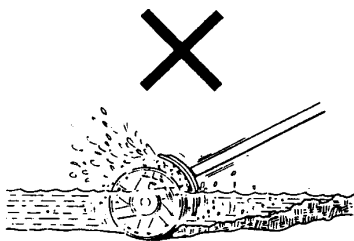

Fig. 10
- c. Do not use the unit in water or rooted, vine area. (Fig. 10 & 11)